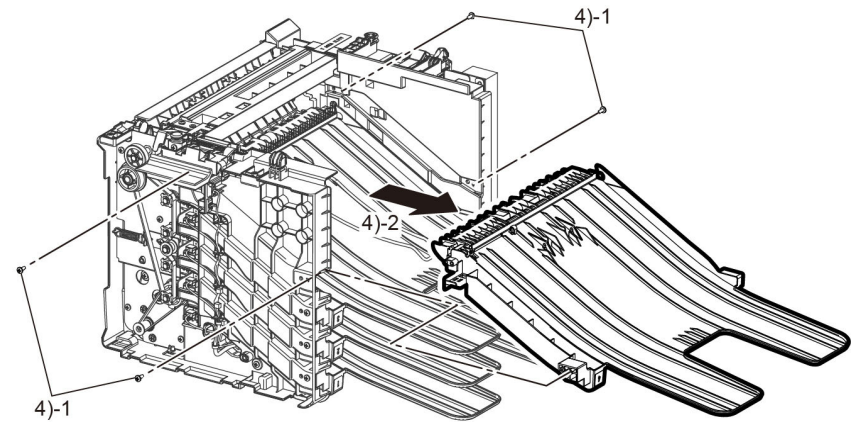

Figure 1 Bottom tray assembly removal
4. Remove the items that follow, Figure 1: